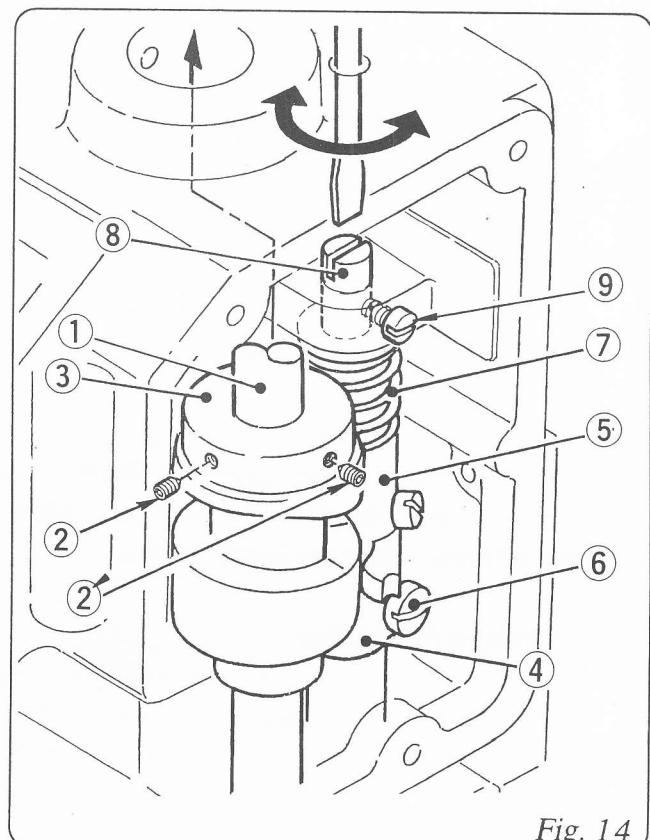

Fig. 14
Adjust Looper Drive Cam ③ When necessary as follows:(Refer to Fig.14.).
a)Apply the Screws ② and ② on the taper of Main Shaft ①.
b)Adjust Arm (B) ④, so that Looper Drive Cam ③ and Arm (A) ⑤ move smoothly. After adjusting, fix the Screw ⑥ tightly.
c)The clearance between Looper Drive Cam ③ and Arm ⑤ is effected by Spring ⑦. Loosen Screw ⑨ and turn Spring Supporter ⑧ to adjust the pressure of Spring ⑦. After adjusting, tighten the Screw ⑨ to fasten Spring Supporter ⑧.
① Main Shaft 241102
② ②' Screw 15/64S28524
③ Looper Drive Cam 243012
④ Looper Rocker Shaft Arm (B) 243081
⑤ Looper Rocker Shaft Arm (A) 243071
⑥ Screw for Looper Rocker Shaft Arm (B) 11/64S40009
⑦ Spring 243131